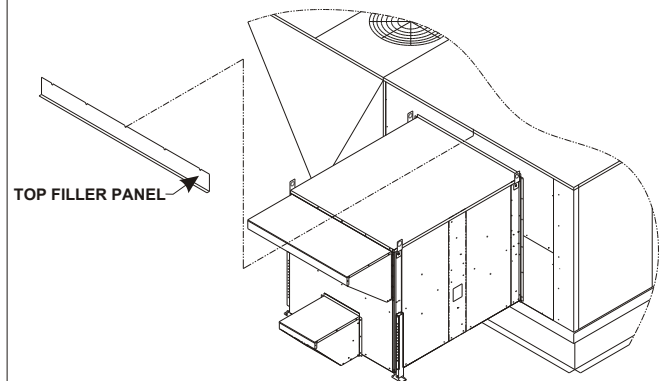

Figure 13
6. Insert remaining top filler panel with the notches upward under the top of the RTU to cover the top flange of ERS. **See Figure 13.**